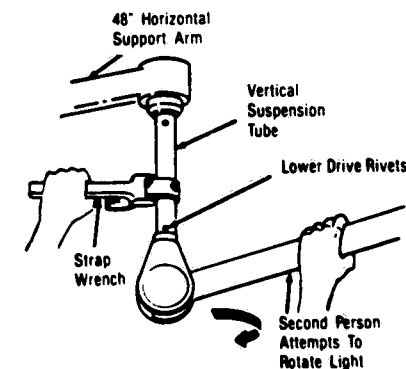

Figure 4-17. LOWER DRIVE RIVET INSPECTION.
- a. Place a cloth-type strap wrench on vertical suspension tube above suspension fork. (See Figure 4-17)